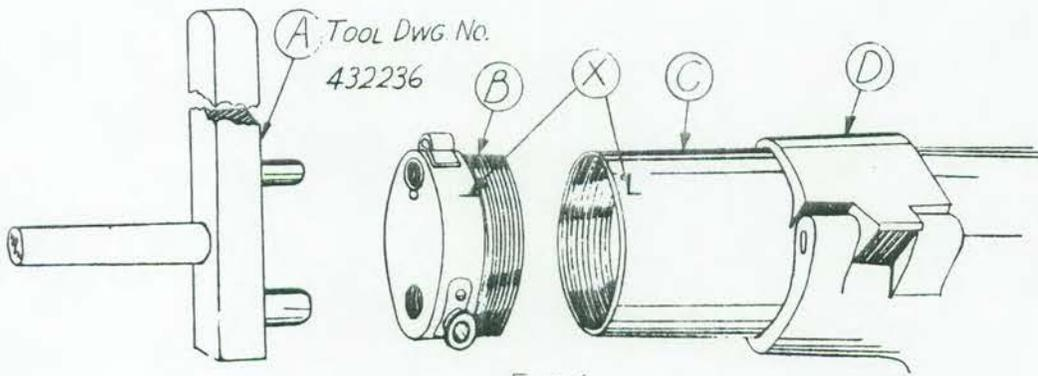

FIG. 1
26 TAKE A SHARP CHISEL AND CUT AN ALIGNMENT LINE (X) ACROSS CAP (B) AND JACKET (C). NOW PUT JACKET (C) IN VISE SO THE CAP END IS HEATED BY THE BURNERS IN FIG. 1, SHEET 14. REMOVE CAP WITH TOOL (A). NOW CLEAN AND STRAIGHTEN JACKET AS IN OPERATION (25). RECOAT THREADS IN JACKET (C) AND CAP (B) WITH SOLDER AND SCREW THE CAP IN. TIGHTEN UP TO ALIGNMENT MARKS (X).